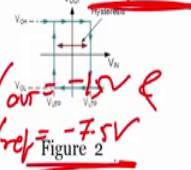

Figure 2
- The difference between the two trip points is called **Hysteresis**. This is shown graphically in Figure 2 aside